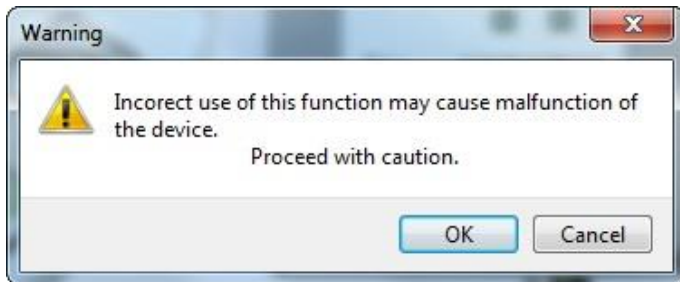

Fig. 24 Warning.
2. Warning: Select **OK** to start update (Fig. 24).